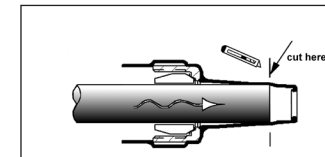

Figure 3A
- Method 1: Unscrew gland nut from body. Force square cut cable in boot. Cut boot in front of cable. (Figure 3A)